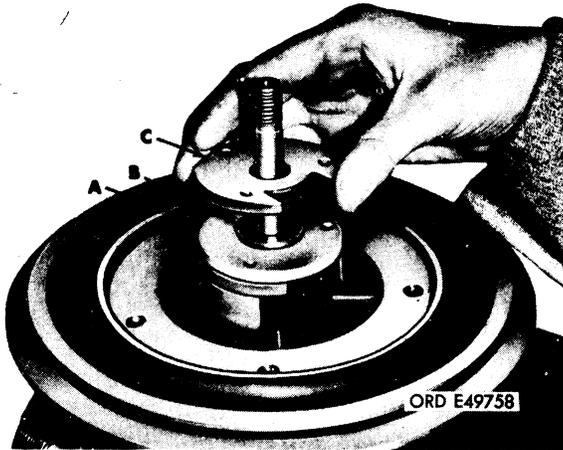

FIGURE 49. PLACING THRUST BEARING, THRUST RING, AND FRONT OIL RETAINER OVER SPACER SLEEVE - TURBOCHARGERS 10912638 AND 53591-C-139552.
b. Refer to figure 49. Position thrust bearing (A) over spacer sleeve with oil passage hole facing retainer. Place thrust ring (B) over thrust bearing. Position front oil retainer (C) over thrust ring with recessed face towards thrust bearing. Make certain the three screw holes are aligned.